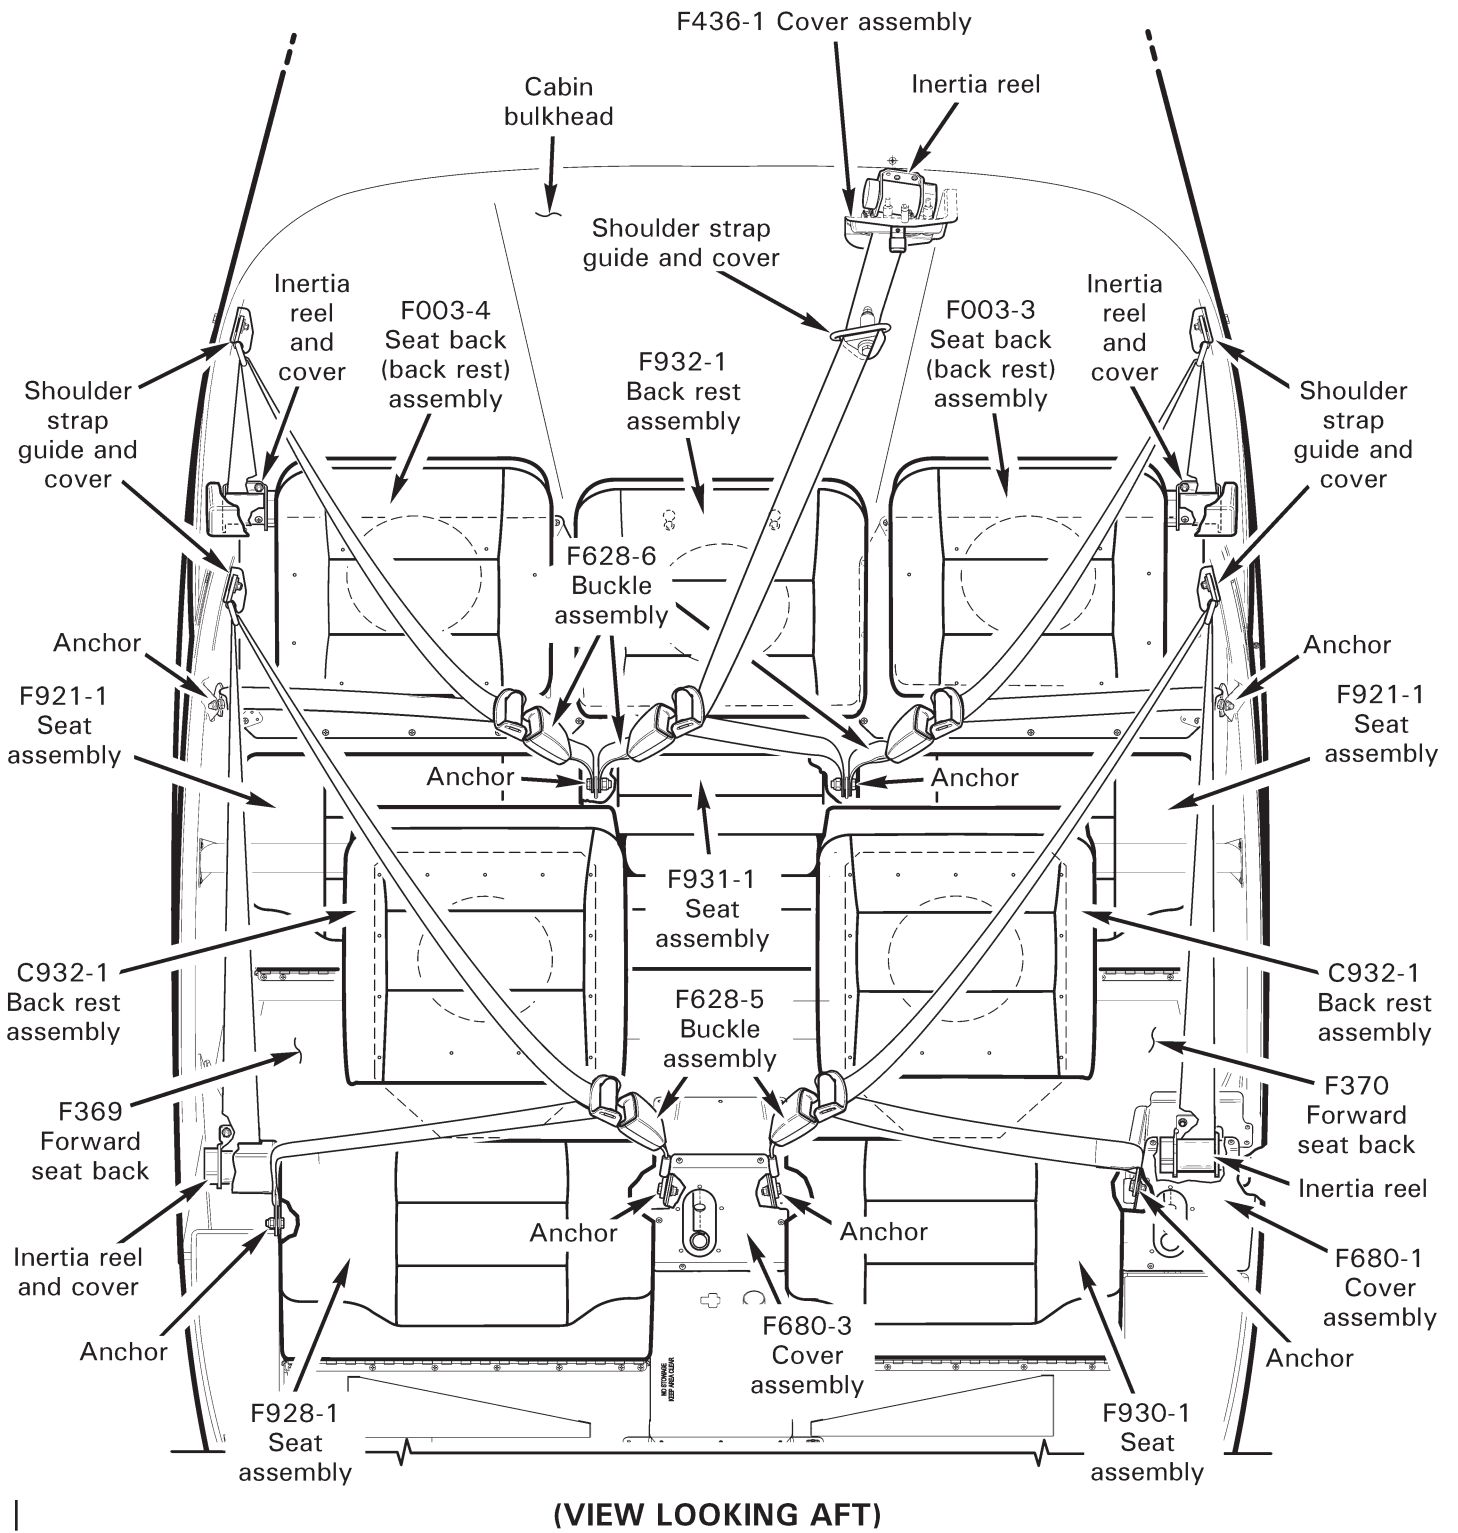

FIGURE 25-1 SEAT HARNESSSES, SEAT ASSEMBLIES, AND BACK RESTS
1. Refer to Figure 25-1. Remove F680-1 and F680-3 collective cover assemblies; hinge seat assemblies forward.
2. Refer to Figure 25-1. Remove F680-1 and F680-3 collective cover assemblies; hinge seat assemblies forward.
1. Refer to Figure 25-1. Remove F931-1 seat assembly; hinge left and right seat assemblies forward.
2. Refer to Figure 25-1. Remove F931-1 seat assembly; hinge left and right seat assemblies forward.
1. Refer to Figure 25-1. Install hardware securing inertia reels to F369 and F370 forward seat backs. Install right side reel cover.
4. Refer to Figure 25-1. Install F680-1 and F680-3 collective cover assemblies; hinge seat assemblies forward.
1. Refer to Figure 25-1. Install hardware securing inertia reels to cabin bulkhead. Install reel covers.
1. Refer to Figure 25-1. Install hardware securing inertia reel to cabin bulkhead. Install F436-1 (headset jack) cover assembly. Verify security.
2. Refer to Figure 25-1. Remove hardware securing seat assembly hinge to seat box and remove seat assembly.
2. Refer to Figure 25-1. Position seat assembly on seat box and install hardware securing hinge to box. Verify security.
Refer to Figure 25-1. Attach or detach center seat assembly to or from the seat box via hook and loop tape (Velcro).
2. Refer to Figure 25-1. Remove hardware securing back rest assembly to cabin bulkhead.
2. Refer to Figure 25-1. Install hardware securing back rest assembly to cabin bulkhead. Verify security.
Refer to Figure 25-1. Detach back rest assembly hook and loop tape (Velcro) at bottom; slide back rest assembly up and out of keyhole slots.
Refer to Figure 25-1. Install back rest assembly in keyhole slots and slide down. Press firmly on back rest assembly hook and loop tape (Velcro) at bottom. Verify security.
2. Refer to Figure 25-1. Drill out rivets securing back rest cushion to seat back panel and deburr holes. Remove cushion.